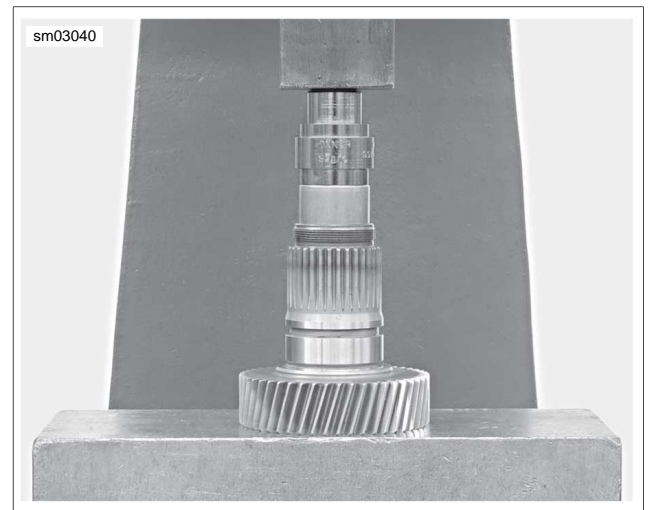

Figure 7-38. Installing Clutch Side Needle Bearing in Main Drive Gear
2. See Figure 7-38. Install clutch side needle bearing using an arbor press and the 0.400 in. step end of tool as shown. Press until tool is flush.